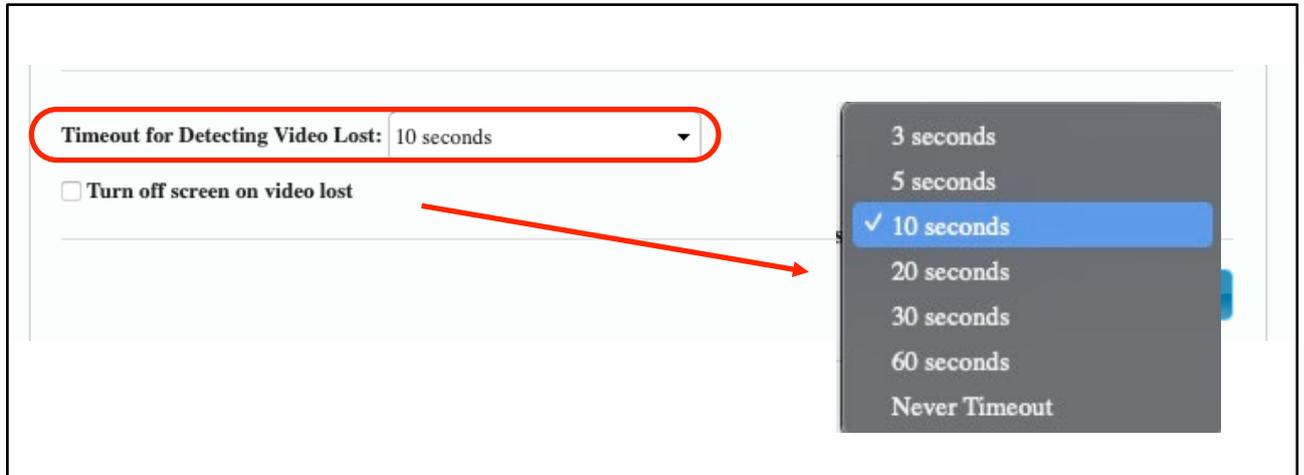
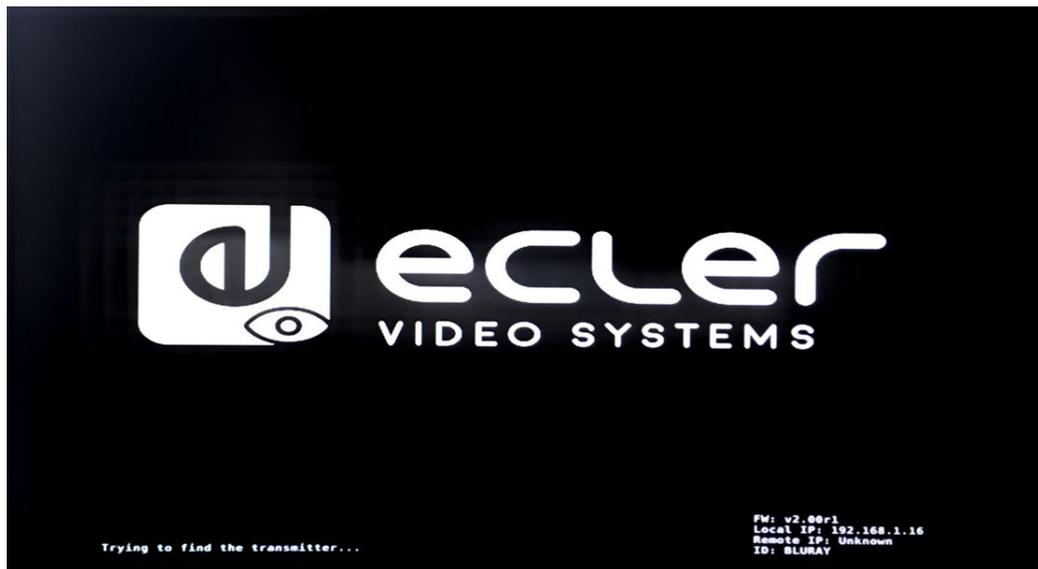

Figure 3
Figure 4
- **Not active:** if this parameters is not checked, the figure introduced on “*Timeout for Detecting Video Lost*” dialog (Figure 3) will define the time between the instant that the video loss is detected and that the VEO-XRI2L stand-by splash screen appears (Figure 4).